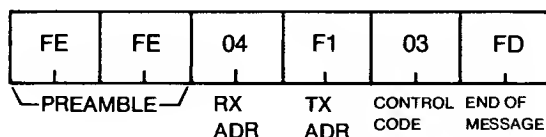
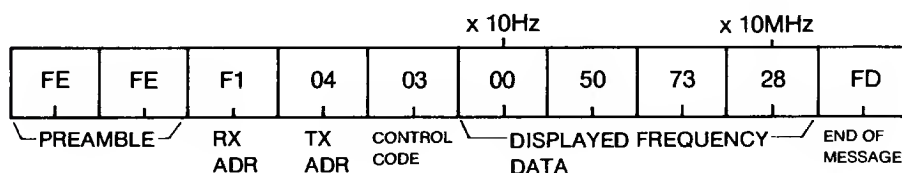

Fig. 14
Fig. 15
- (1) The controller can ask the IC-735 for the displayed frequency.
- (2) When the controller sends the packet in Fig. 14, the IC-735 returns the packet shown in Fig. 15.
(3) If the receiving IC-735 is scanning, it ignores the frequency request.
(4) The frequency data is sent from the 1Hz digit to the highest digit. In the IC-735, the 1Hz digit is always 0.